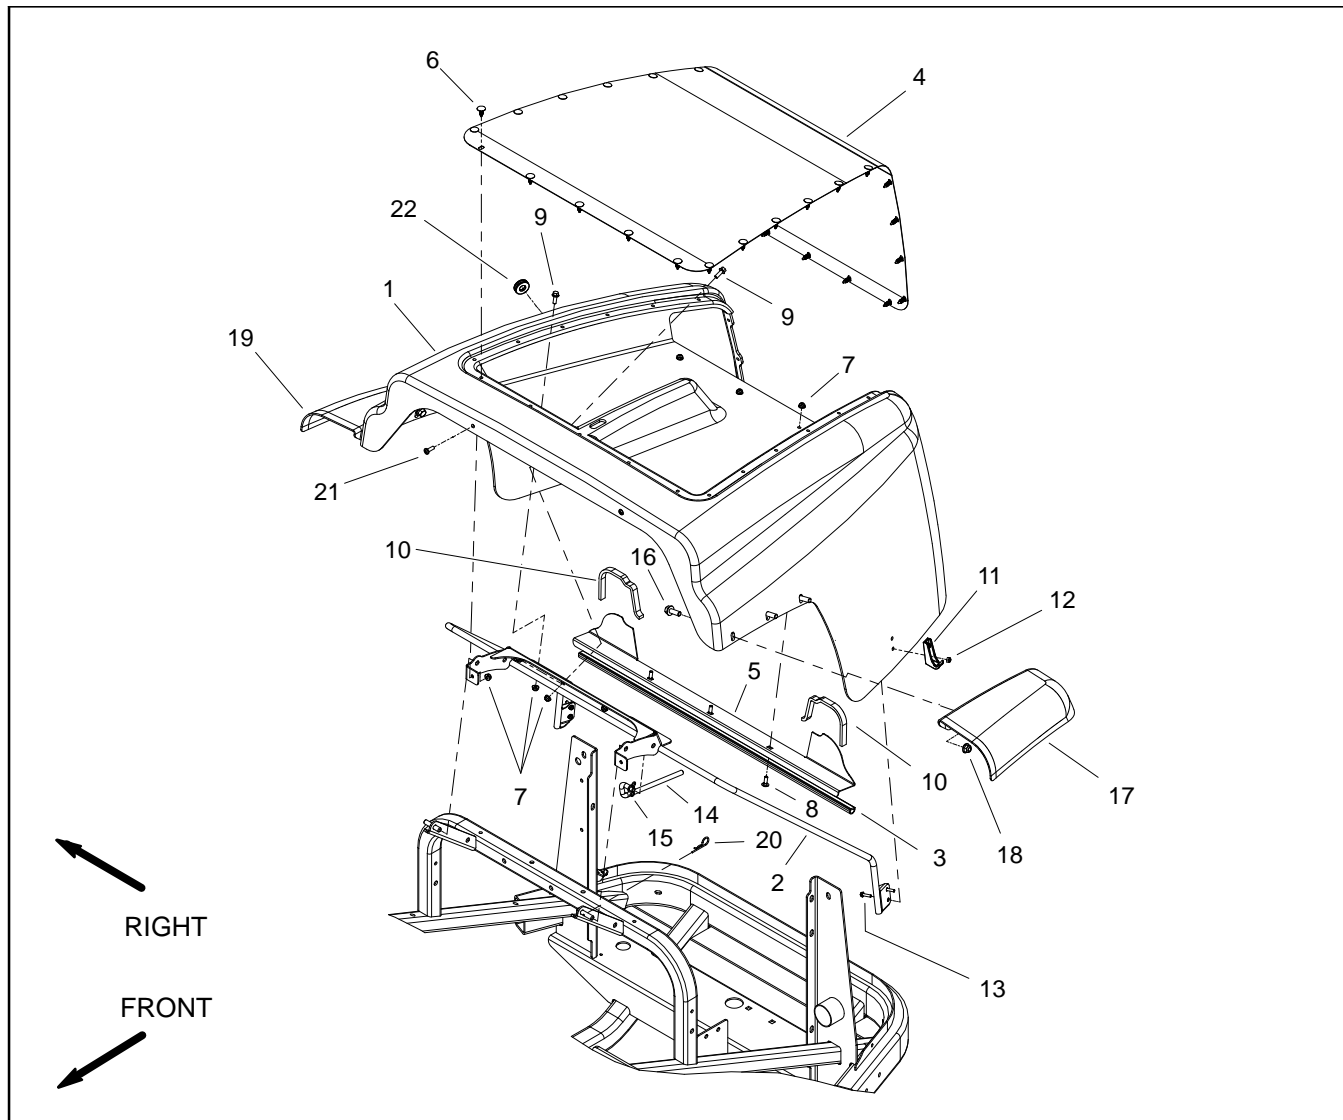

Figure 57
### Removal (Fig. 57)
3. Remove hair pin (item 20) from frame rod to allow hood removal.
6. If necessary, remove hood components using Figure 57 as a guide.
### Installation (Fig. 57)
1. Install all removed hood components using Figure 57 as a guide. If intake screen was removed from hood, make sure that hood seal (item 5) and hood mount (item 2) are attached to hood before installing screen. Secure screen to hood with plugs.
4. Install hair pin (item 20) to retain hood.